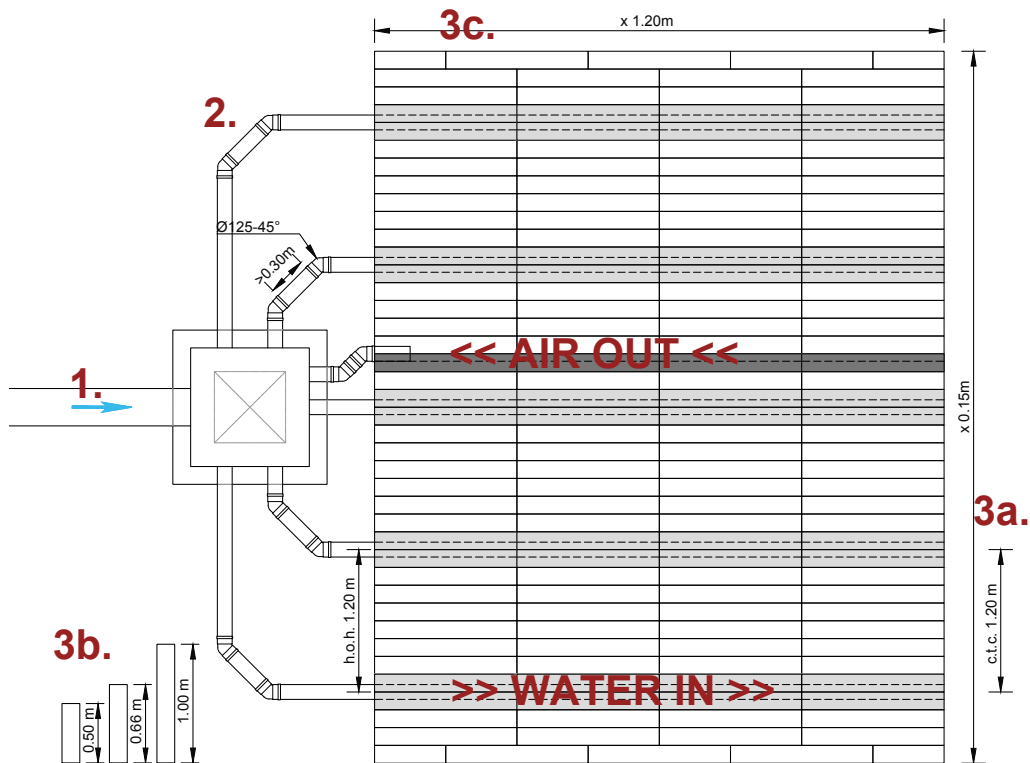

Figure 17: Design connections (top view)
N.B. This is not the same as the maximum storage requirements; (see point 1 in Figure 17).
$$\text{Minimum number } \varnothing 125 = Q_{\max.A} [\text{l/s}] / 16 [\text{l/s}] \text{ (see point 2 in Figure 17)}$$
- a **Height = 0.50 m or 1.00 m** (already chosen based on the cover layer; see point 3b in Figure 17).
- b **Width = Number  $\varnothing 125$  \* 1.2 m** (c.t.c. distance of channels in Rockflow at  $h=1.0$ ). We recommend dividing buffers that are wider than 10 to 12 m widthways. Compacting of the additional sand is extremely important for wider buffers. N.B. For an extremely high  $Q_{\max.A} [\text{l/s}]$  it is sometimes necessary to fit the supply channels close together ( $<1.2 \text{ m}$ ). If the 1.2 m guideline is followed, the buffer can become too wide. (See point 3a in Figure 17).
- c Length: see point 3c in Figure 17.